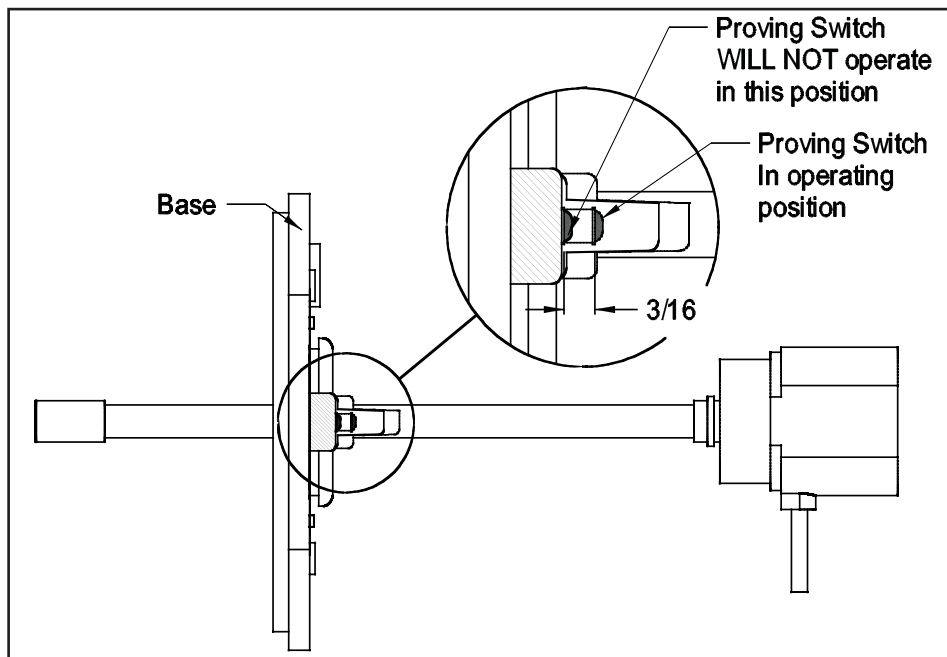

Figure 8
**Make sure when installing the base the plated washer on the switch is raised approximately  $\frac{3}{16}$ ". The proving switch must be fully engaged. (See Figure 8)**